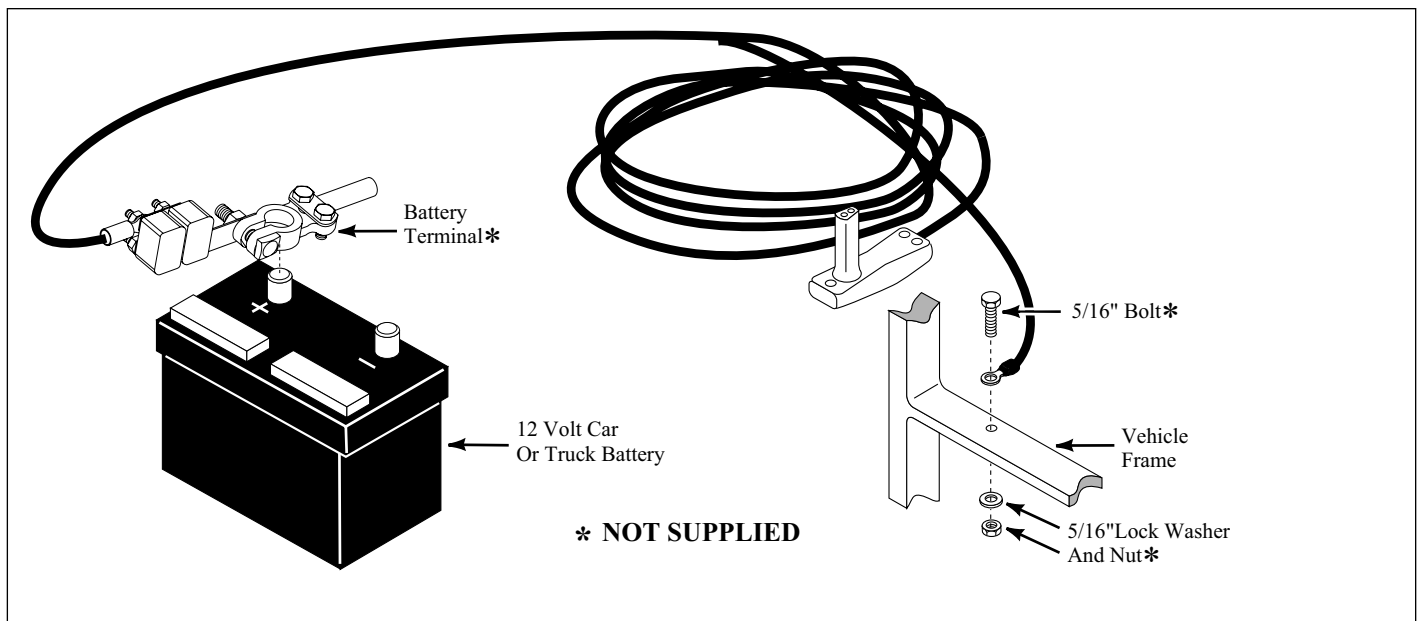

Figure 1 - Permanent Wiring Hookup for Models 712A and 912
To permanently wire the winch, refer to Figure 1 follow the outlined procedures.
1. Attach the circuit breaker to the **positive (+)** battery post or to the **positive (+)** battery side of the starter solenoid (See Figure 1).